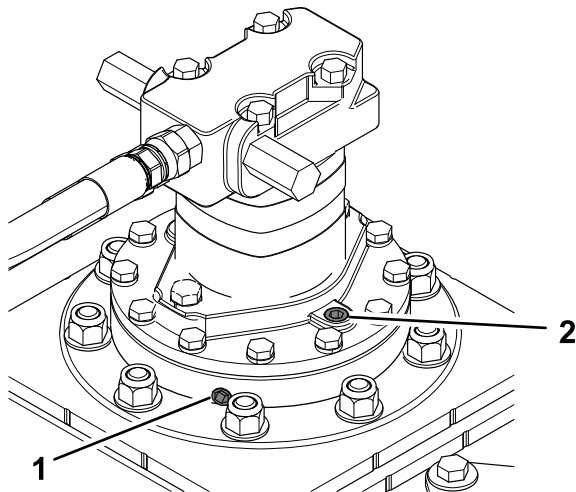

Figure 7
3. Remove the plug on the side of the bearing housing (Figure 7).